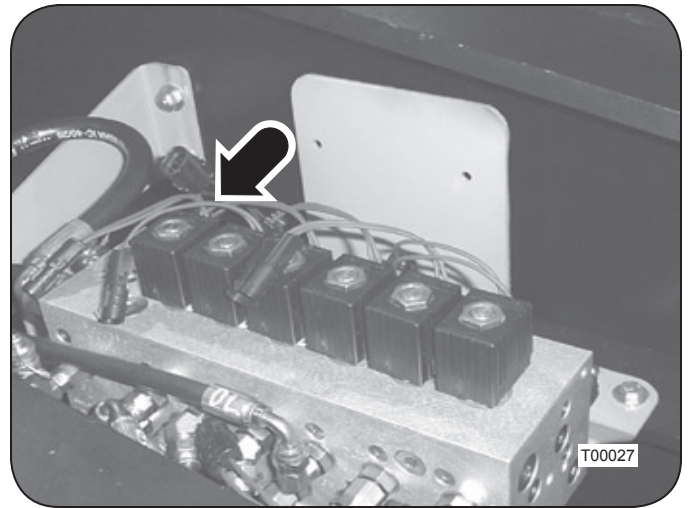

Figure 21: Lower Solenoid Manifold (TF 830 installation shown)
3. Locate and disconnect the parking brake solenoid coil harness at the lower solenoid manifold. See Figure 21. This will prevent the parking brake from releasing.
2. Locate and disconnect the parking brake solenoid coil harness at the lower solenoid manifold. See Figure 21. This will prevent the parking brake from releasing.